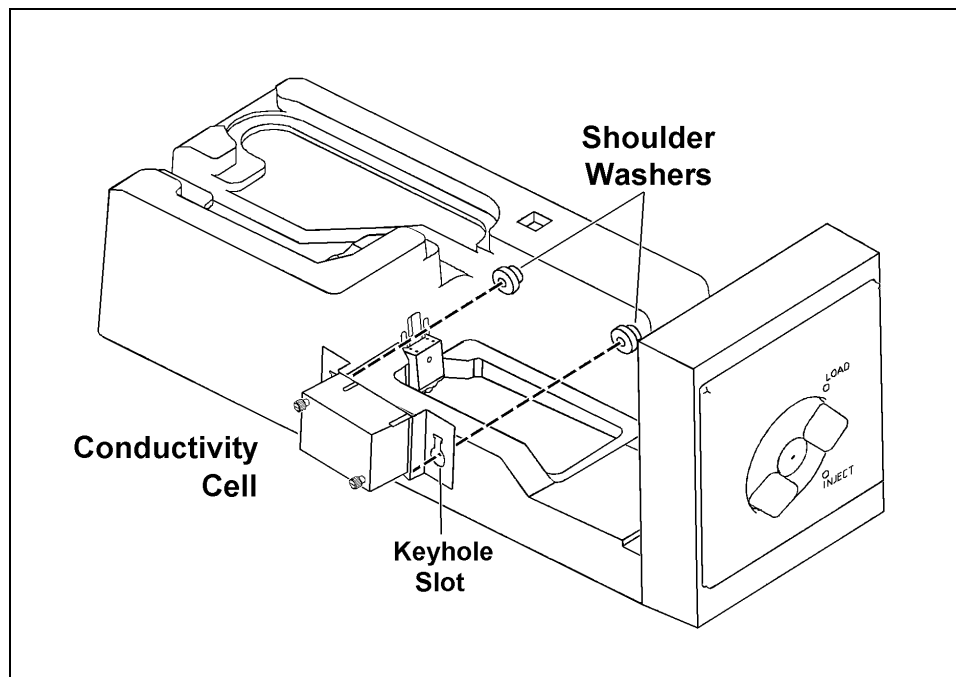

Figure 2-7. Mounting a Conductivity Cell in the LC10
3. Mount the conductivity cell in the LC10 by positioning the keyhole slots in the conductivity cell shield box over the shoulder washers located on the LC10 (Figure 2-7). Pull the cell down into position.
2. Mount the DS3 in the LC10 by positioning the keyhole slots at the back of the DS3 over the shoulder washers located on the LC10 (Figure 2-7). Pull the DS3 down into position.